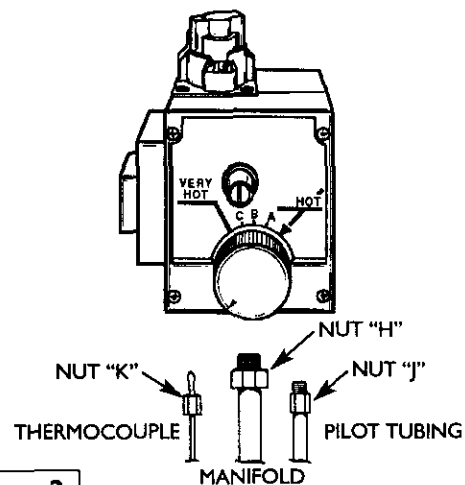
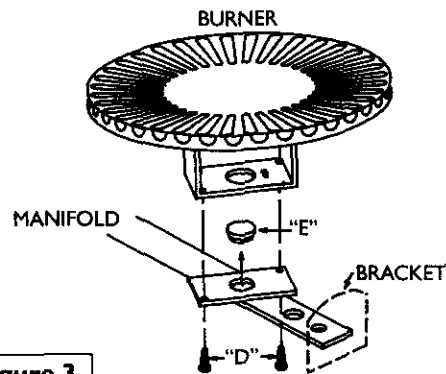

Figure 2
Figure 3
- Step 3. Remove burner assembly from water heater and control by loosening 3/4" nut "H" holding burner assembly to control. (See Figure 2, page 17). Loosen pilot tube nut "J" and thermocouple nut "K" at control.
- Step 4. Remove screws "D" disengaging manifold from burner. (See Figure 3, page 17)
- Step 5. Remove orifice "E" (See Figure 3, page 17) using 3/8" wrench. Install orifice marked "L.P." found in the bag into manifold. Tighten securely. Secure burner to manifold with screws "D".
- Step 7. Make sure all connections are tightened securely, and reinstall burner assembly into water heater. Position end of the manifold inside bracket as shown in Figure 3 on page 17. Reinstall manifold into control and tighten 3/4" nut ("H") securely. Recheck to see that end of manifold is still inside bracket as shown in Figure 3 on page 17. Reinstall pilot tubing and thermocouple into control. (See Figure 2, page 17)
- Step 14. Push in control knob all the way and hold down. Immediately light the pilot with a match. Continue to hold control knob in for about one (1) minute after the pilot is lit. Release knob and it will pop back up. Pilot should remain lit. If it goes out, repeat steps 9 through 12.
- Step 15. Check for gas leaks with only pilot flame burning using a soapy water solution, not a match or open flame. Check for gas leaks at fittings "F" and "G" (See Figure 4, page 17) and at fitting "J" (See Figure 2, page 17).
- Step 19. With a soapy water solution, not a match or open flame, check for gas leaks at gas connection "H". (See Figure 2, page 17). If gas leak occurs, turn off immediately by shutting off gas cock at inlet to control, or by turning gas control knob (↶) to "PILOT" pushing down and turning to "OFF". Repair gas leak as necessary, and repeat steps 9 through 19.